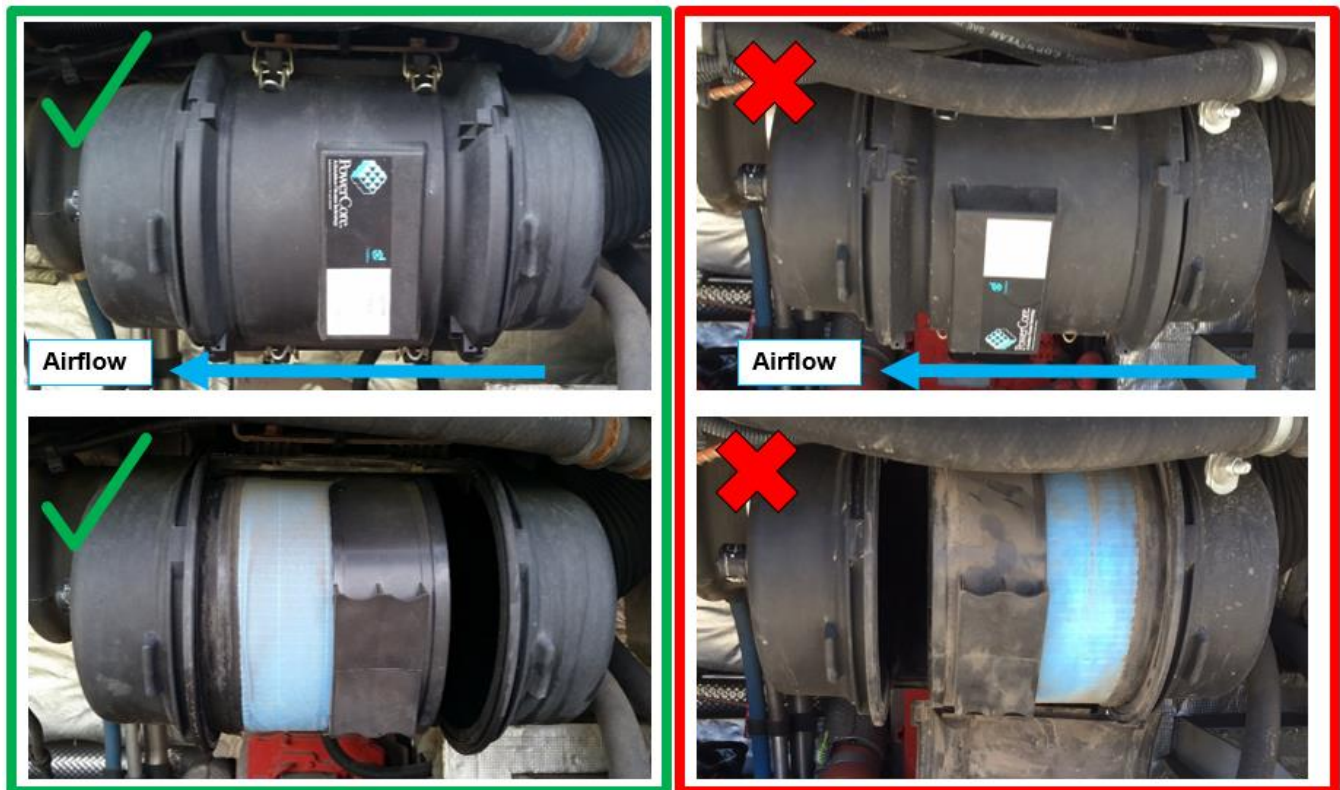

Figure 2: Correct orientation on left. Incorrect orientation on right.
3. Open the access door to view the air filter media and inspect the orientation of the air filter. Refer to Figure 2
- a. Take a picture of the air filter assembly with the filter showing, similar to what is shown in Figure 2.
8. Re-install the air filter canister, ensuring proper orientation as shown in Figure 2. Install a new filter into the air filter canister.